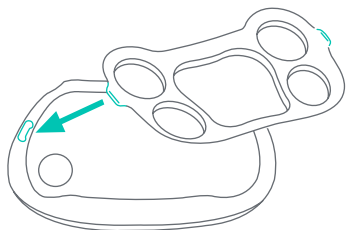

Fig. 11a
- 11) • The dishwasher safe food Tray Insert snaps onto the High Chair Tray and is held in place by tabs on the sides of the Tray (Fig. 11a). When installing the Tray Insert make sure that its snaps into place to prevent the child from removing the Tray Insert. To remove Insert unsnaps tabs from the Tray.